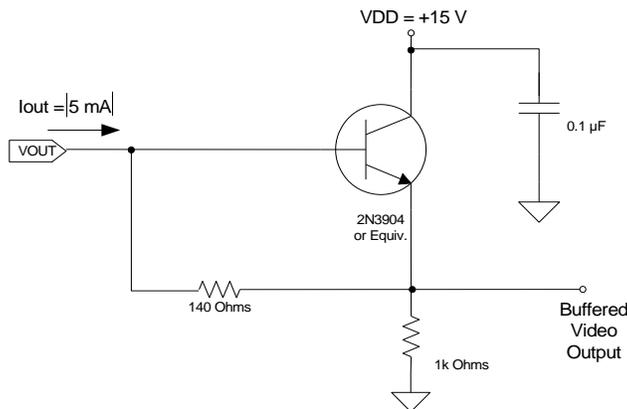

Figure 3: Recommended Output Structure Load Diagram
The output consists of a floating diffusion connected to a three-stage source follower. Charge presented to the floating diffusion (FD) is converted into a voltage and is current amplified in order to drive off-chip loads. The resulting voltage change seen at the output is linearly related to the amount of charge placed on the FD. Once the signal has been sampled by the system electronics, the reset gate (RG) is clocked to remove the signal and FD is reset to the potential applied by reset drain (RD). Increased signal at the floating diffusion reduces the voltage seen at the output pin. To activate the output structure, an off-chip current source must be added to the VOUT pin of the device. See Figure 3.